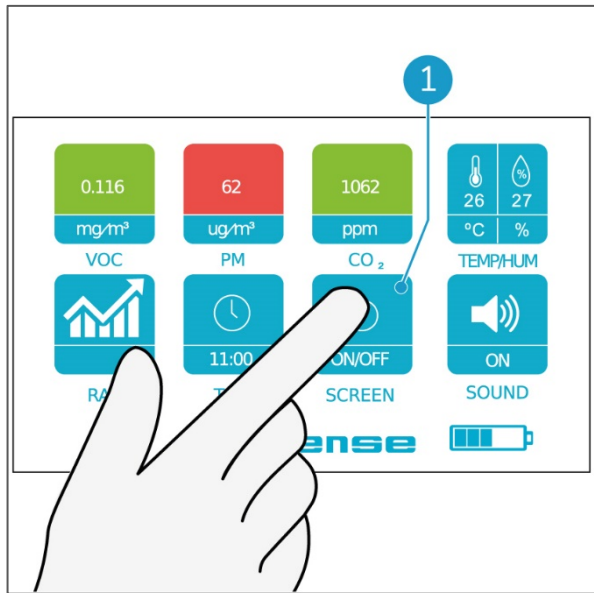

Figure 22
1. Touch the SCREEN button (Figure 22, pos 1) with your finger to turn off the screen.